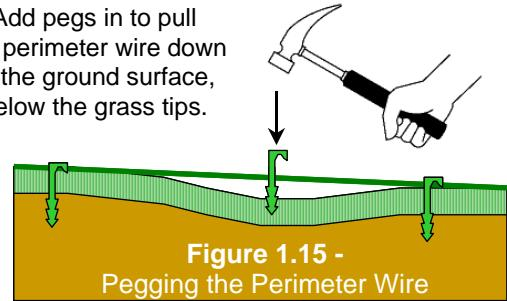

Figure 1.15 - Pegging the Perimeter Wire
- Pegs should be driven at distances between one another that will keep the wire down below the grass level and prevent it from becoming a tripping hazard (Figure 1.15).